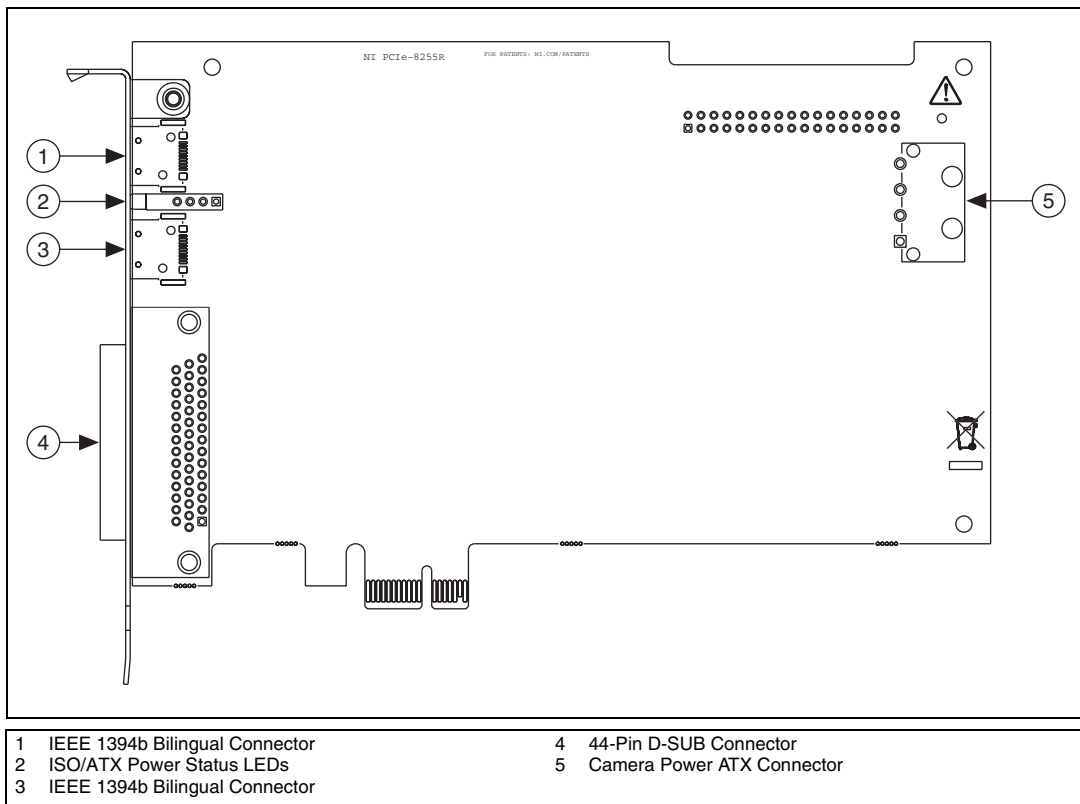

Figure 2. NI 8255R Connectors
8. To provide power to your camera, connect an unused power connector from the ATX power supply on your computer to the camera power ATX connector on your NI 8255R. Refer to Figure 2 for information about placement of the connectors on the NI 8255R.